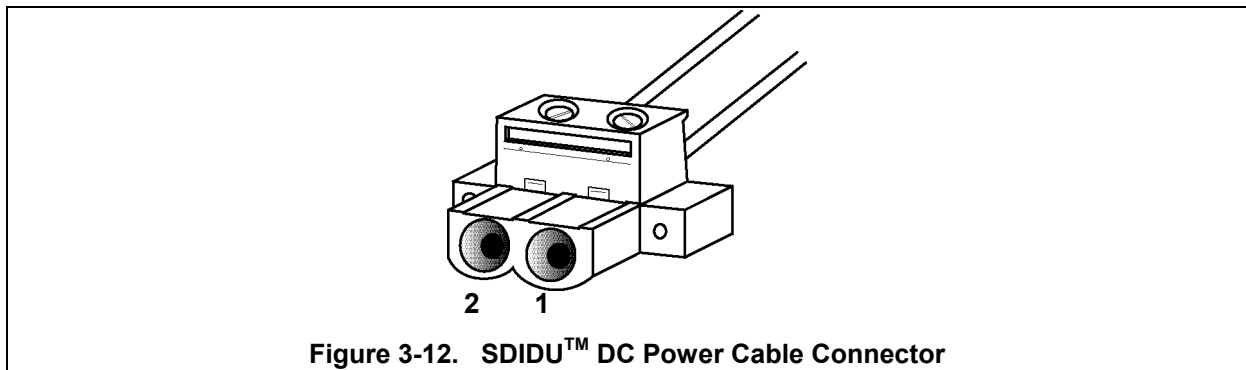

Figure 3-12. SDIDU™ DC Power Cable Connector
6. Plug the SDIDU™ power cable into the SDIDU™ front panel DC Power connector (**DC Input**). Place the voltmeter probes on the cable connector screw terminal screw heads as per step 2 above. Refer to Figure 3-12. Note that the MDS 5800 II SDIDU™ does not have a power on/off switch. When DC power is connected, the digital radio powers up and is operational. There can be up to 320 mW of RF power present at the antenna port. The antenna should be directed safely when power is applied.